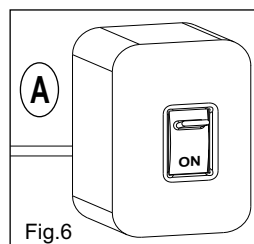

Fig.6
4) Connect the control board to the power supply (Fig.6).